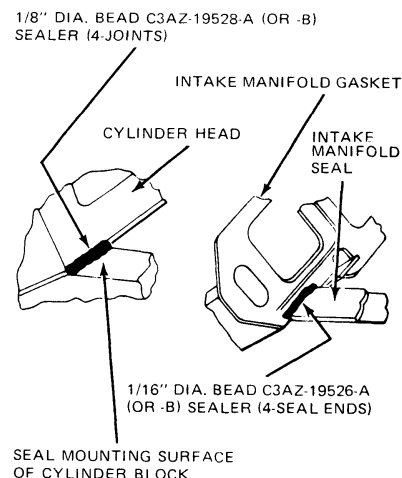

FIG. 15 Sealing Intake Manifold with RTV Sealer
3. Apply a 1/8 inch diameter bead of silicone rubber sealer (C3AZ-19562-B or equivalent) in and along the joint, the full width of the cylinder block seal mounting surface (four corners) as shown in Fig. 15.
4. Install the cylinder head to manifold gaskets and the front and rear intake manifold to cylinder block seals. Apply a 1/16 inch bead of sealer at the outer end of each intake manifold seal for the full width of the seal (Fig. 15).